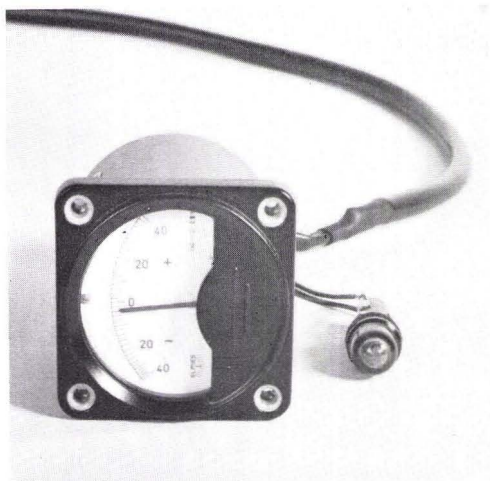

FIG. 11. Statoscope altitude indicator which is located in the aerial camera and photographed on each exposure.
3. The third indicator (Figure 11) is the recording instrument built into the instrument panel in the RCB and RC9 Cameras, and is photographed with each exposure. If the total range of ± 40 height units is passed, the recording instrument is not illuminated for the next one